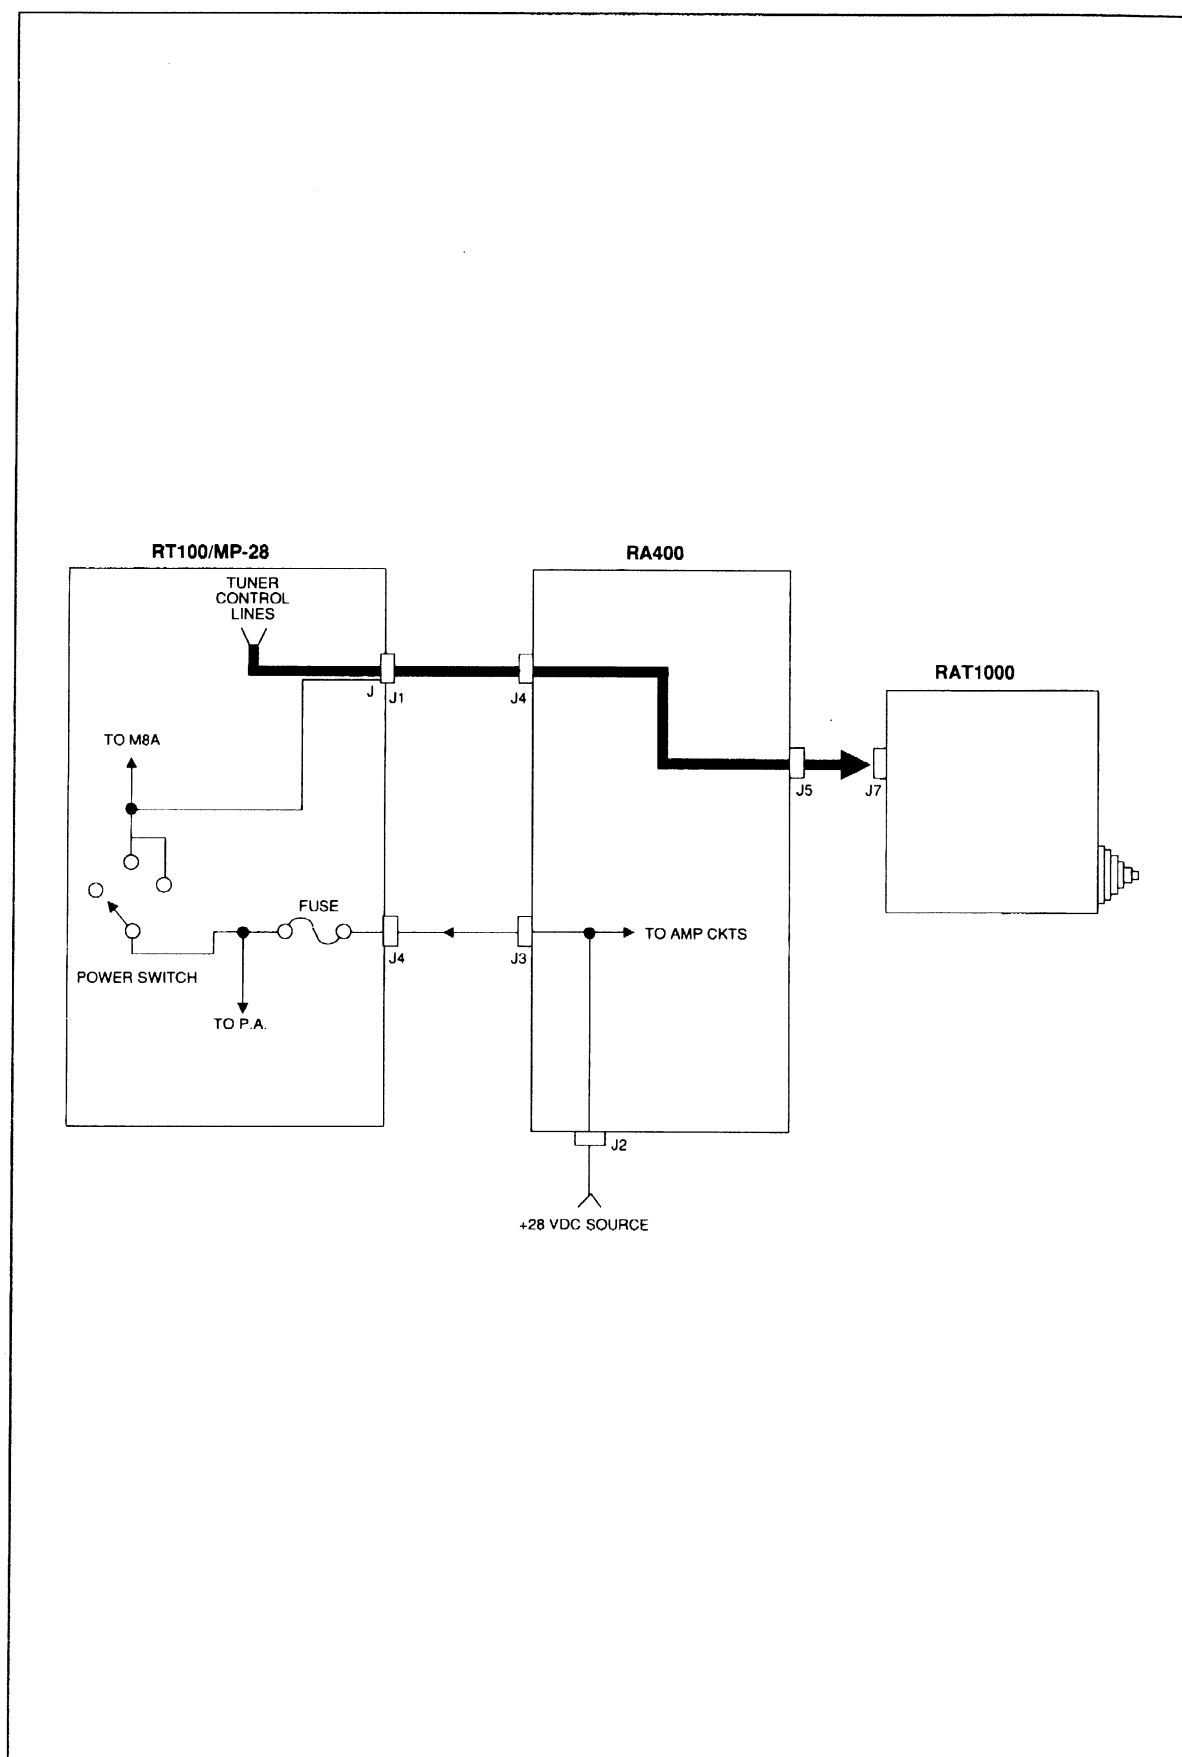

FIGURE 2-5.
Figure 2-5 shows the primary power routing. The RT100/MP-28 power switch controls the +28 V to the RAT1000.
1. To provide +28 Vdc to the RAT1000, a jumper must be connected inside the RT100/MP from J1-J to the input of the M8A module (see Figure 2-5). The RAT1000 +28 V is then controlled by the RT100/MP-28 power switch.